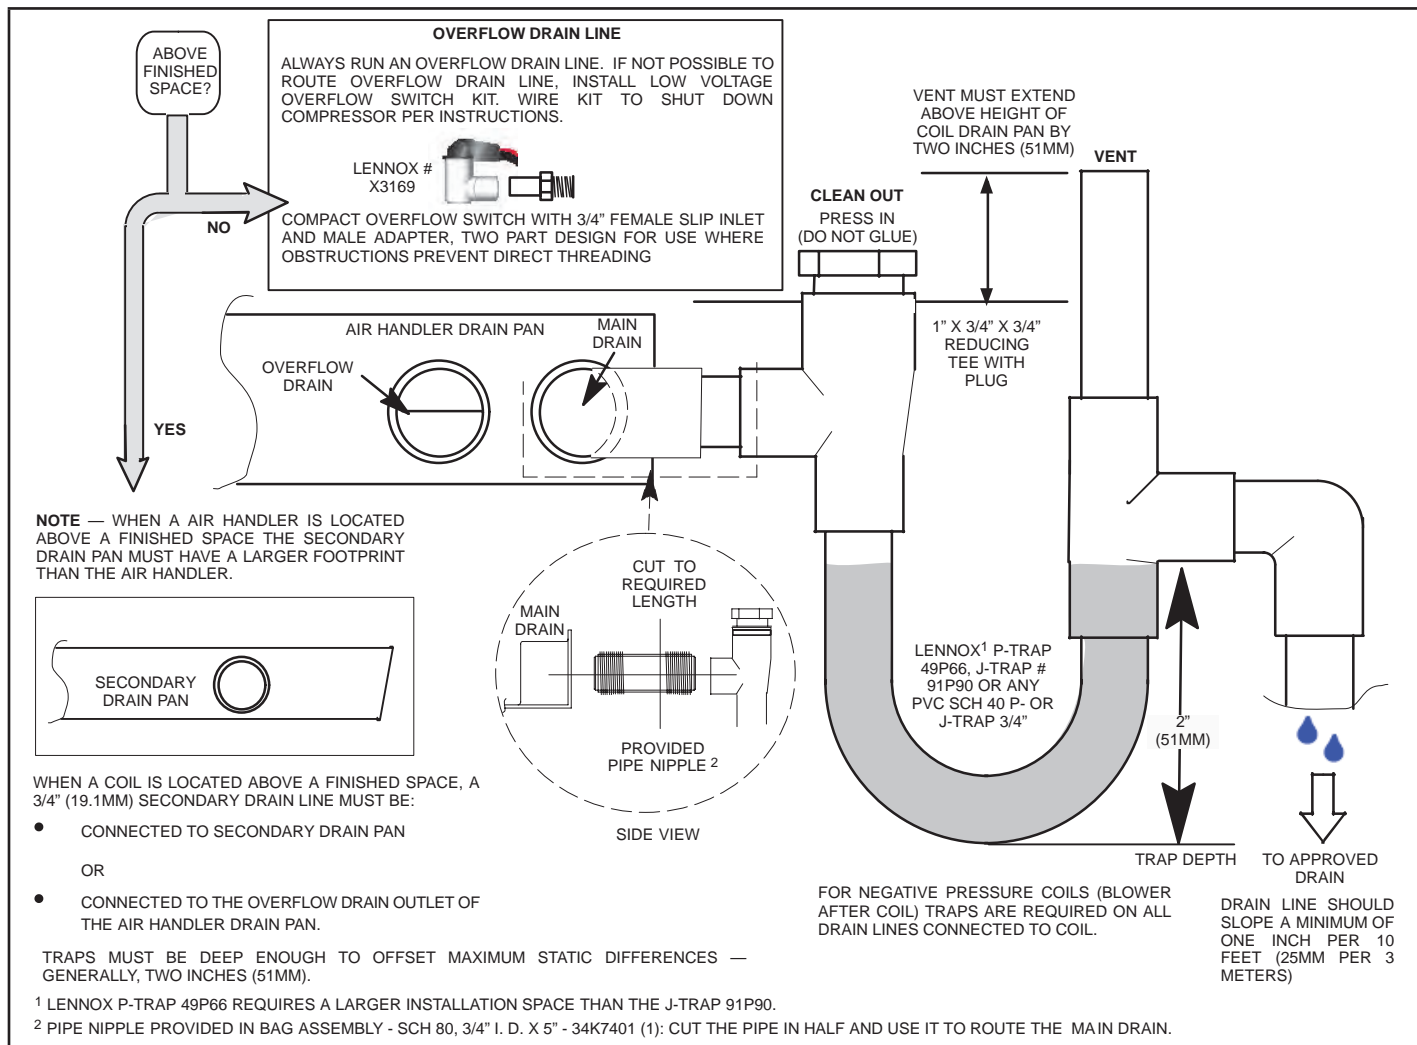

FIGURE 6. Typical Main and Overflow Drain
- 6 - Install a 2" trap in the main (primary) drain lines as close to the unit as practical (see figure 6). Make sure the top of the trap is below the connection to the drain pan to allow complete drainage of the pan.
NOTE - Horizontal runs must have an anti-siphon air vent (standpipe) installed ahead of the horizontal run. See figure 6. An extremely long horizontal run may require an oversized drain line to eliminate air traps.